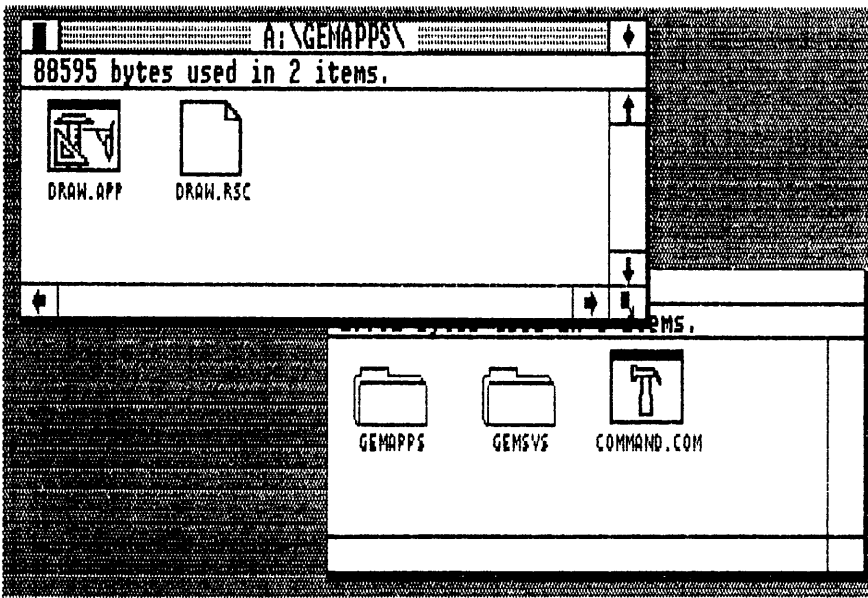

Fig. 4-1. A properly completed GEM Draw Application disk.
- The installation of GEM Draw is now complete (Fig. 4-1).